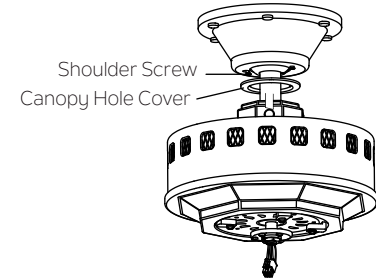

Fig.15
Step 3. Securely attach and tighten the canopy hole cover over the shoulder screws in the mounting bracket utilizing the keyslot twist-lock feature. (Fig. 15)